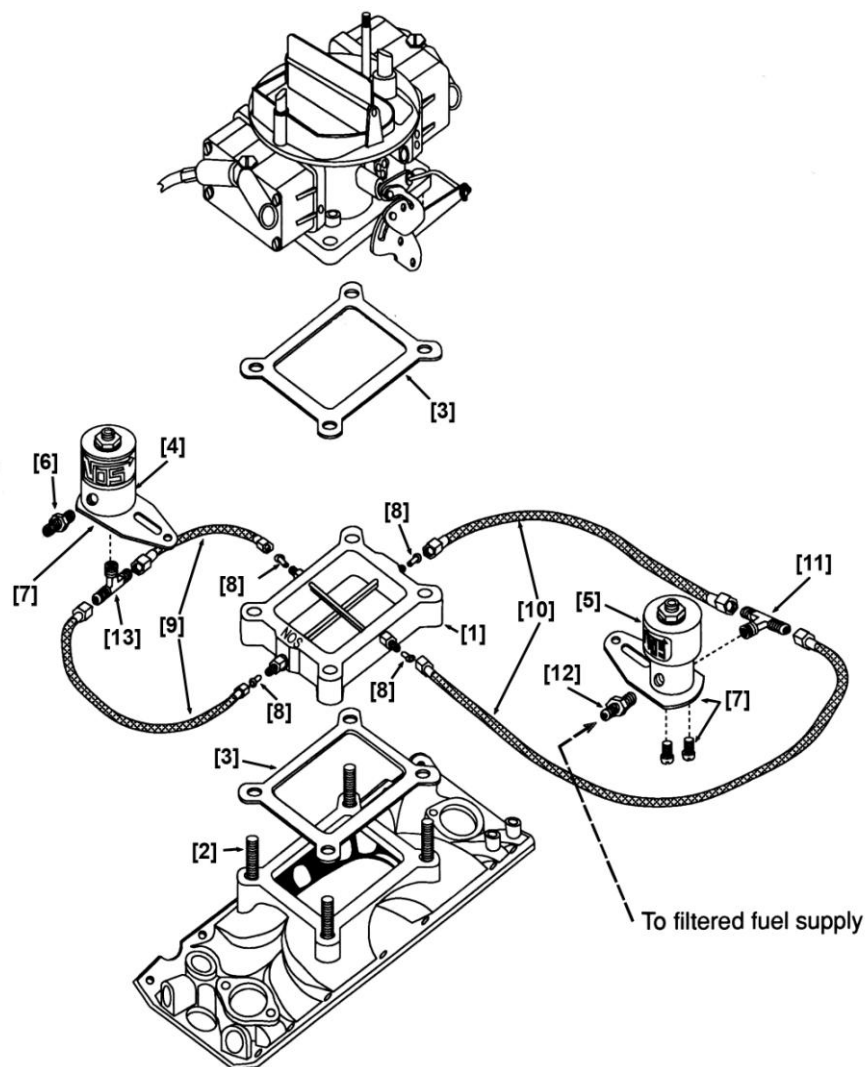

Figure 2 Cross Hair Plate System Kits 02153NOS & 02154NOS—Assembly Drawing
6. Install the extended carburetor studs (2).
7. Install the injector plate (1) and gaskets (3) on the intake manifold with "FIS SIDE UP" facing up and forward. See Figure 2 for the illustration of the part installation. This places the fuel inlets on the plate towards the front and driver's side of the vehicle for the 4500 flange plates and the fuel ports to the driver's side and rear for the 4150 flange plates.
Use the following procedure to install the nitrous solenoid (4) and fuel solenoid (5). See Figure 2 for the illustration of the part installation.